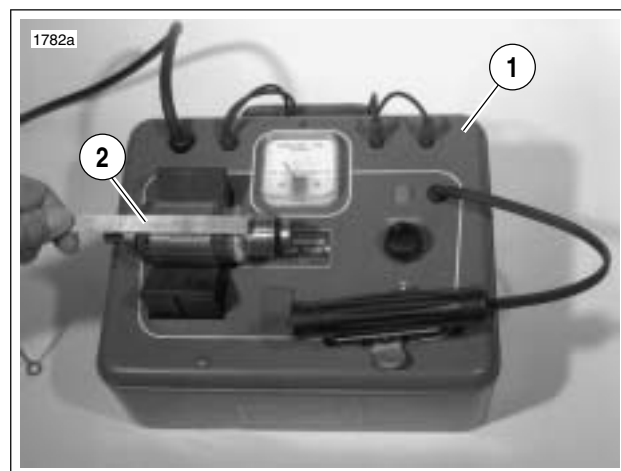
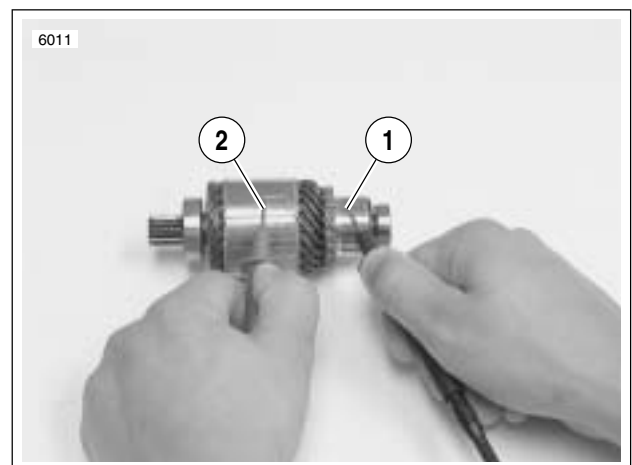

Figure 5-19. Shorted Armature Test Using Growler
Figure 5-20. Grounded Armature Test
9. See Figure 5-19. Check for SHORTED ARMATURE with a growler.
- a. Place armature on growler (1).
- b. Hold a thin steel strip (2) (hacksaw blade) against armature core and slowly turn armature.
10. See Figure 5-20. Check for a GROUNDED ARMATURE with an ohmmeter or continuity tester.
- a. Touch one probe to any commutator segment (1).
- b. Touch the other probe to the armature core (2).